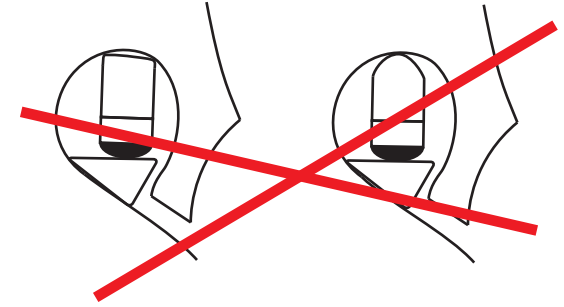

Fig. 2
- Grind the top of the cork until the capsule fits precisely in the hole. (If necessary, you can use a sharp knife to cut the cork before grinding.) The upper side of the cork must be shaped so that it matches the top of the bridge hole exactly. Failure to do this correctly (as shown in Fig 2) will compromise the sound results.